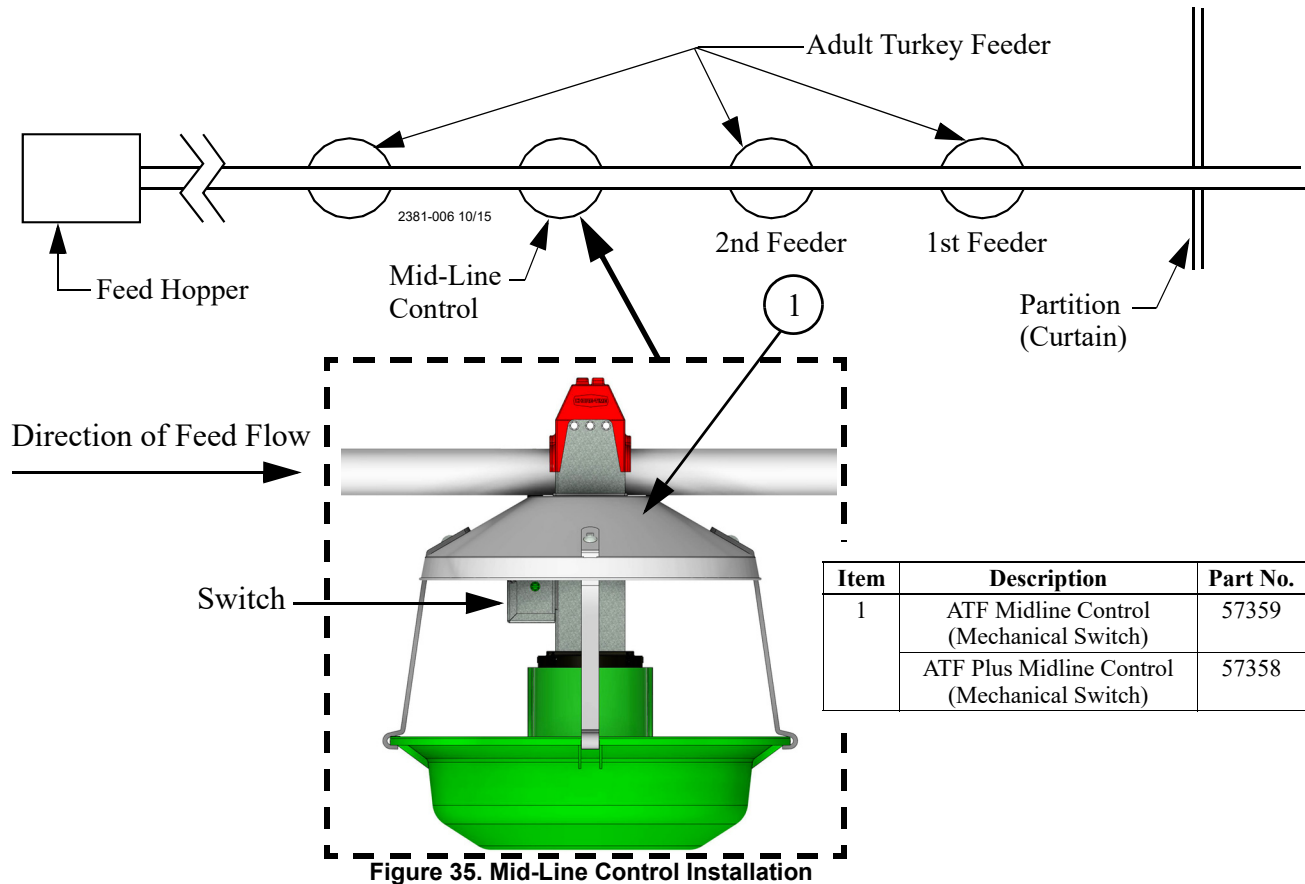

Figure 35. Mid-Line Control Installation
The Mid-line Control (**Item 1**) makes it possible to operate the feeding system when birds are confined away from the End Control Unit. Chore-Time recommends placing the Mid-line Control feeder at least 2 pans away from the curtain or partition, (See **Figure 35**).
2. Make sure the Switch is directly under the incoming supply of feed, (See **Figure 35**).